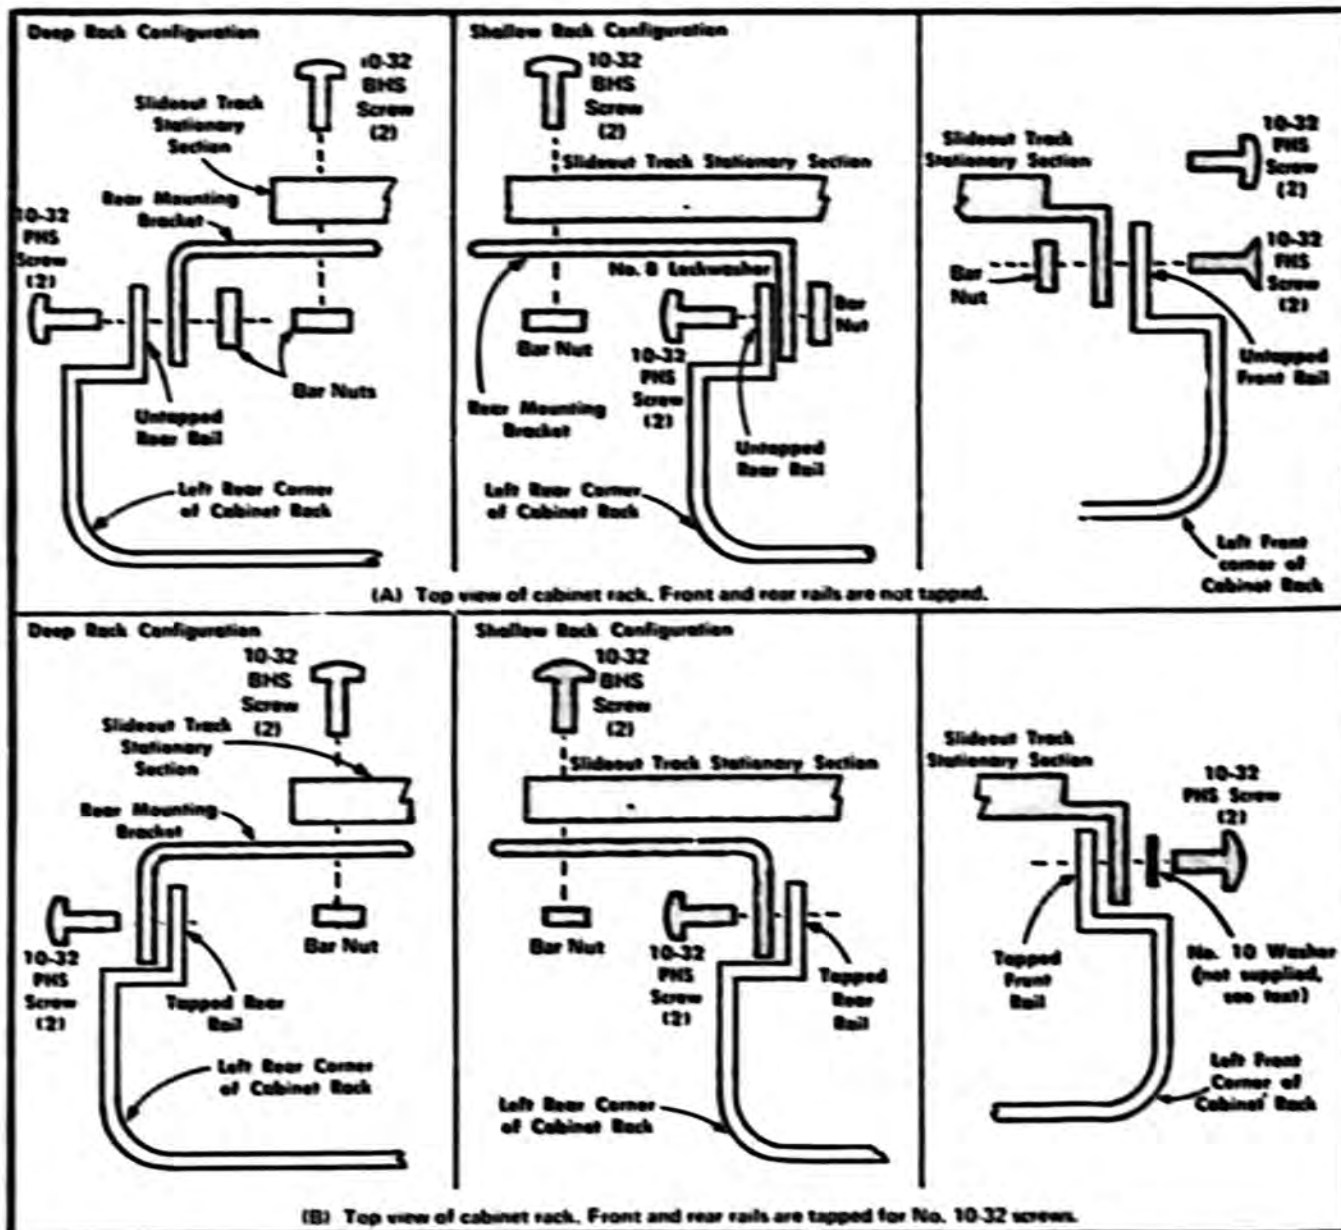

Fig. 1. Mounting the left stationary section (with its matched intermediate section, not shown in illustrations A and B) to the rack rails.
Width. A standard 19-inch wide rack may be used. The dimension of opening between the front rails must be at least 17-5/8 inches for a cabinet in which the front lip of the stationary section is mounted behind an untapped front rail as shown in Fig. 1-A. If the front rails are tapped, and the stationary section is mounted in front of the front rail as shown in Fig. 1-B, the dimension between the front rails should be at least 17-3/4 inches. These dimensions allow room on each side of the instrument for the slide-out tracks to operate so the instrument can move freely in and out of the rack.
1. Front and rear rail holes must be large enough to allow inserting a 10-32 screw through the rail mounting hole if the rails are untapped (see Fig. 1-A).
2. Or, front and rear rail holes must be tapped to accept a 10-32 screw if Fig. 1-B mounting method is used. Note in Fig. 1-B right illustration that a #10 washer (not supplied) may be added to provide increased bearing surface for the slide-out track stationary section front flange.
Mounting Procedure. Use the following procedure to mount both sides. See Fig. 1 for installation details.
10-32 screws), mount the stationary sections as shown in Fig. 1-B right illustration. To provide increased bearing surface for the screw head to securely fasten the front flange to the rail, a flat washer (not supplied) may be added under the screw head. However, consider that when this mounting method is used, the front panel will not fit flush against the front rail because of the stationary section and washer thickness. If a flush fit is preferred, method 2 (a) should be used.
with hardware provided as shown in the left or center illustration of **Fig. 1A**. Note that the rear mounting bracket can be installed either way so the slide-out tracks will fit a deep or shallow cabinet rack. Use **Fig. 1-A** as a guide for mounting the right stationary section. Make sure the stationary sections are horizontally aligned so they are level and parallel with each other.
(b) If the rear rack rail holes are tapped to accept 10-32 machine screws, mount the left stationary section with hardware provided as shown in the left or center illustration of **Fig. 1-B**. Note that the rear mounting bracket can be installed either way so the slide-out tracks will fit a deep or shallow cabinet rack. Use **Fig. 1-B** as a guide for mounting the right stationary section. Make sure the stationary sections are horizontally aligned so they are level and parallel with each other.